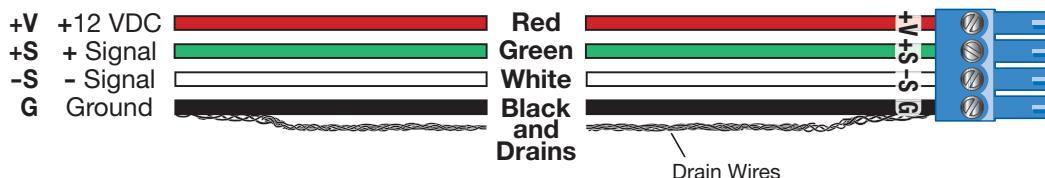

Figure 3. ACP Port Connector Wiring
- D ACP port** — Use a 4-pole 3.5 mm captive screw connector to connect an ACP control device for configuration (see figure 3 for wiring details and Configure ACP Panels on page 17 or the *DSP Configurator Help File* for details on configuring the ACP).